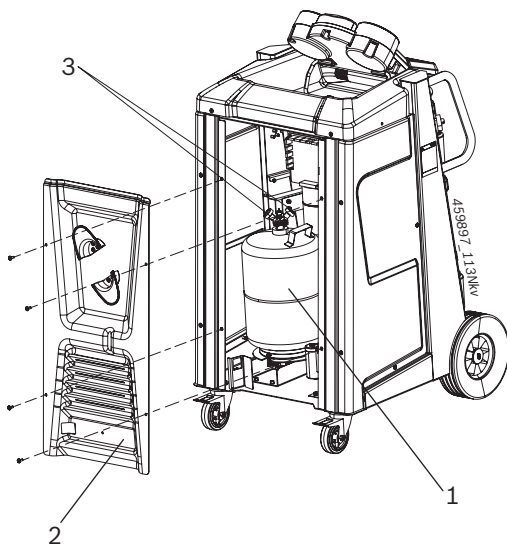

Fig. 5: Opening the rear panel
5. Open the rear panel (Fig. 5, Pos. 2).